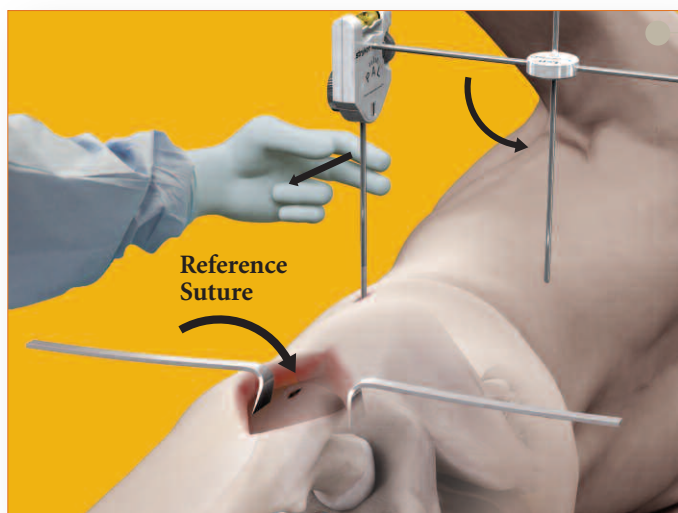

Figure 4
i. First, place a suture into the fascia overlying the greater trochanter as an identifying point (E) for later reference. (Figure 4).
ii. Assemble the LL/Offset guide into the PAL and then place back onto the Steinman pin so the body of PAL is aligned with the longitudinal axis of the patient and the LL/Offset guide is position toward the surgeon (posterior). (Figure 4).
iii. If the bubble is not perfectly positioned in the window, then the assistant surgeon gently pushes on the pin (HINT: not the PAL itself) to center the bubble. (Figure 4).